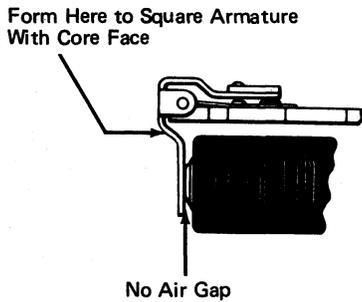

Figure 2-38. Armature Squareness
2. Form the armature so that when held in attracted position, the armature and core face are parallel (Figure 2-38).